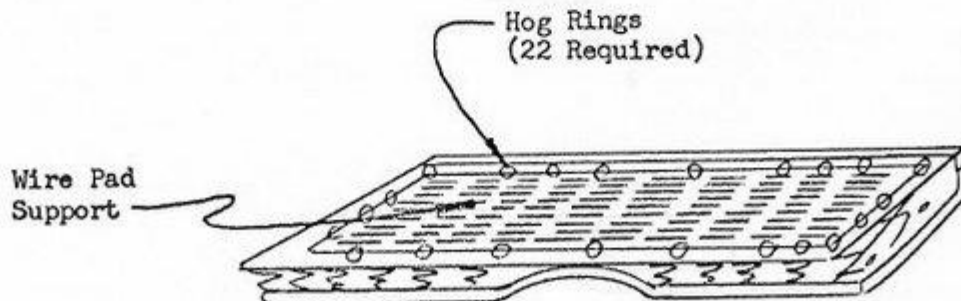

Figure 3
- (12) Discard the cotton pad and using 22 hog rings, fasten the wire-and-burlap pad support directly to the spring assembly as shown in Figure 3.